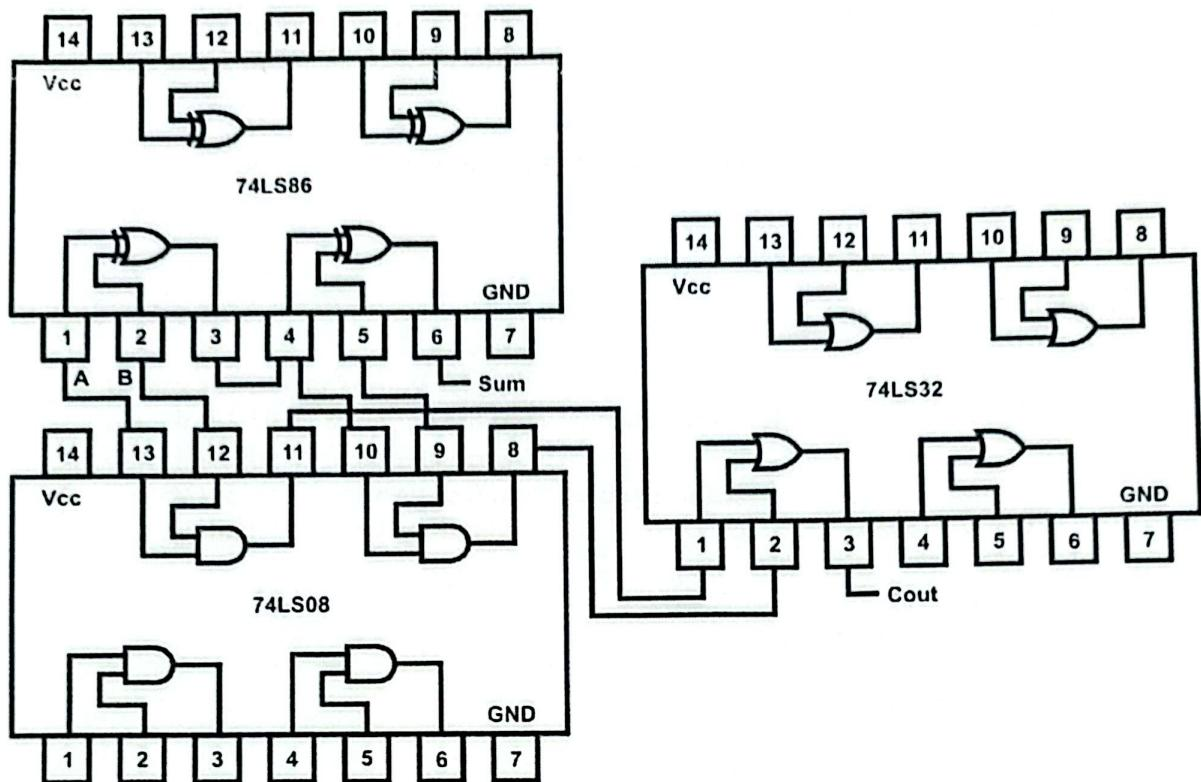

Fig. 10.2
4. Wire the circuit according to the diagram shown in figure 10.2.